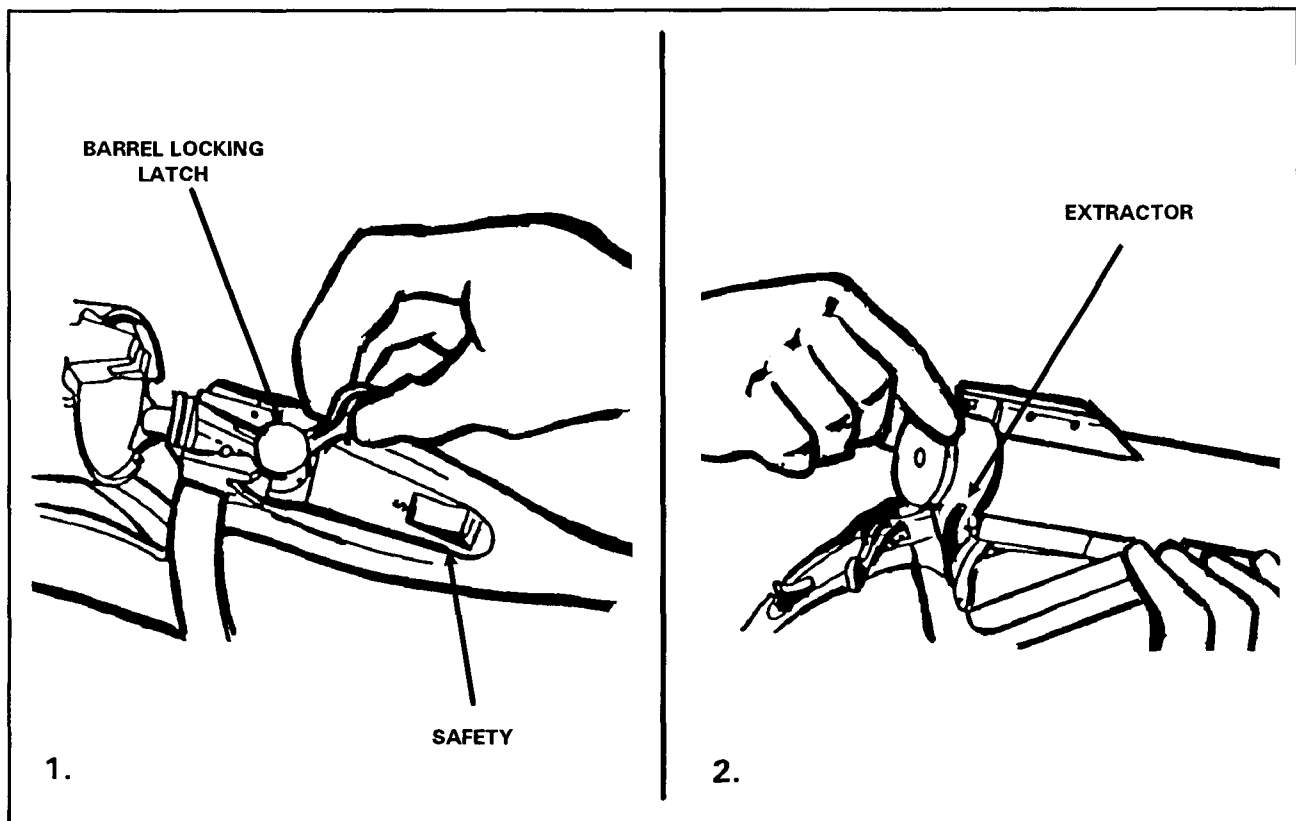

Figure A-13. Loading the grenade launcher.
- a. **Loading.** To load the weapon (Figure A-13)—
- (1) Move the barrel locking latch as far to the right as possible.
- (2) Insert a round into the chamber, ensuring the extractor contacts the cartridge case rim.
- (3) Close the weapon.
- (4) Place the weapon on SAFE.